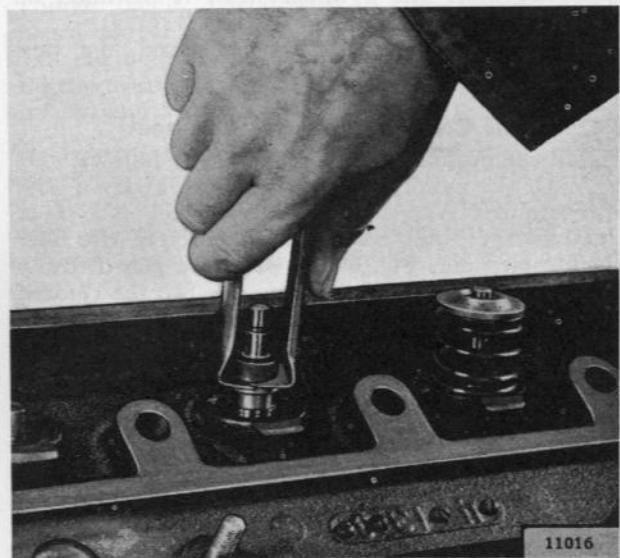

FIG. 125—SEATING SEAL ON VALVE GUIDE WITH INSTALLER TOOL W-273
- f. Use the valve guide seal installation tool W-273 to push down on the valve guide seal until it is fully seated on the valve guide, as shown in Fig. 125.